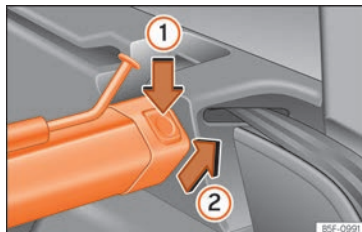

Fig. 158 In the luggage compartment: removing the net partition.
- Press the left or right release catch » Fig. 158 in the direction of the arrow ①.
- Remove the casing from the support in the direction of the arrow » Fig. 158 ②.
- Press the casing into the left and right supports in the opposite direction to the arrow » Fig. 158 ② until it engages.